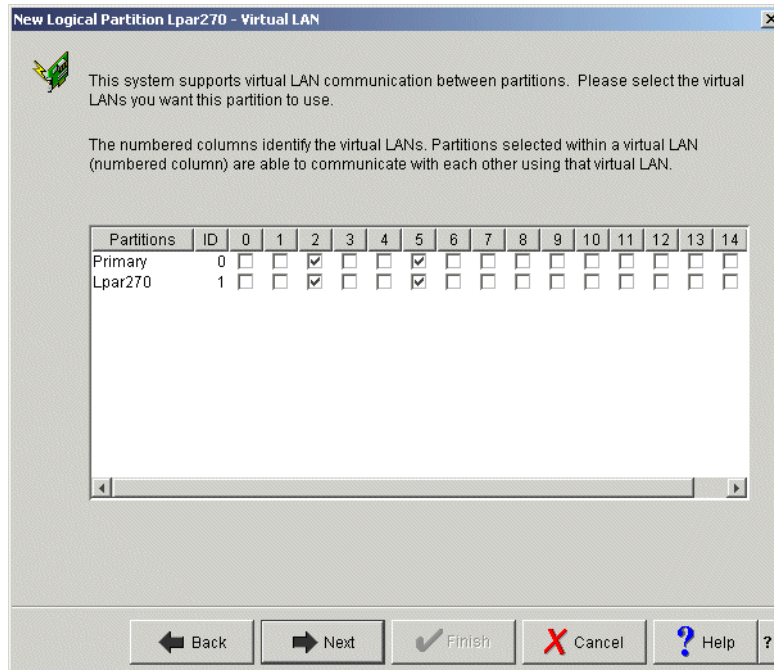

Figure 4-26 Using virtual LAN numbers for interpartition communications between primary, Lpar270
23. You then see the New Logical Partition - Virtual LAN window (Figure 4-26). We selected two virtual Ethernet LAN connections (numbers 2 and 5).